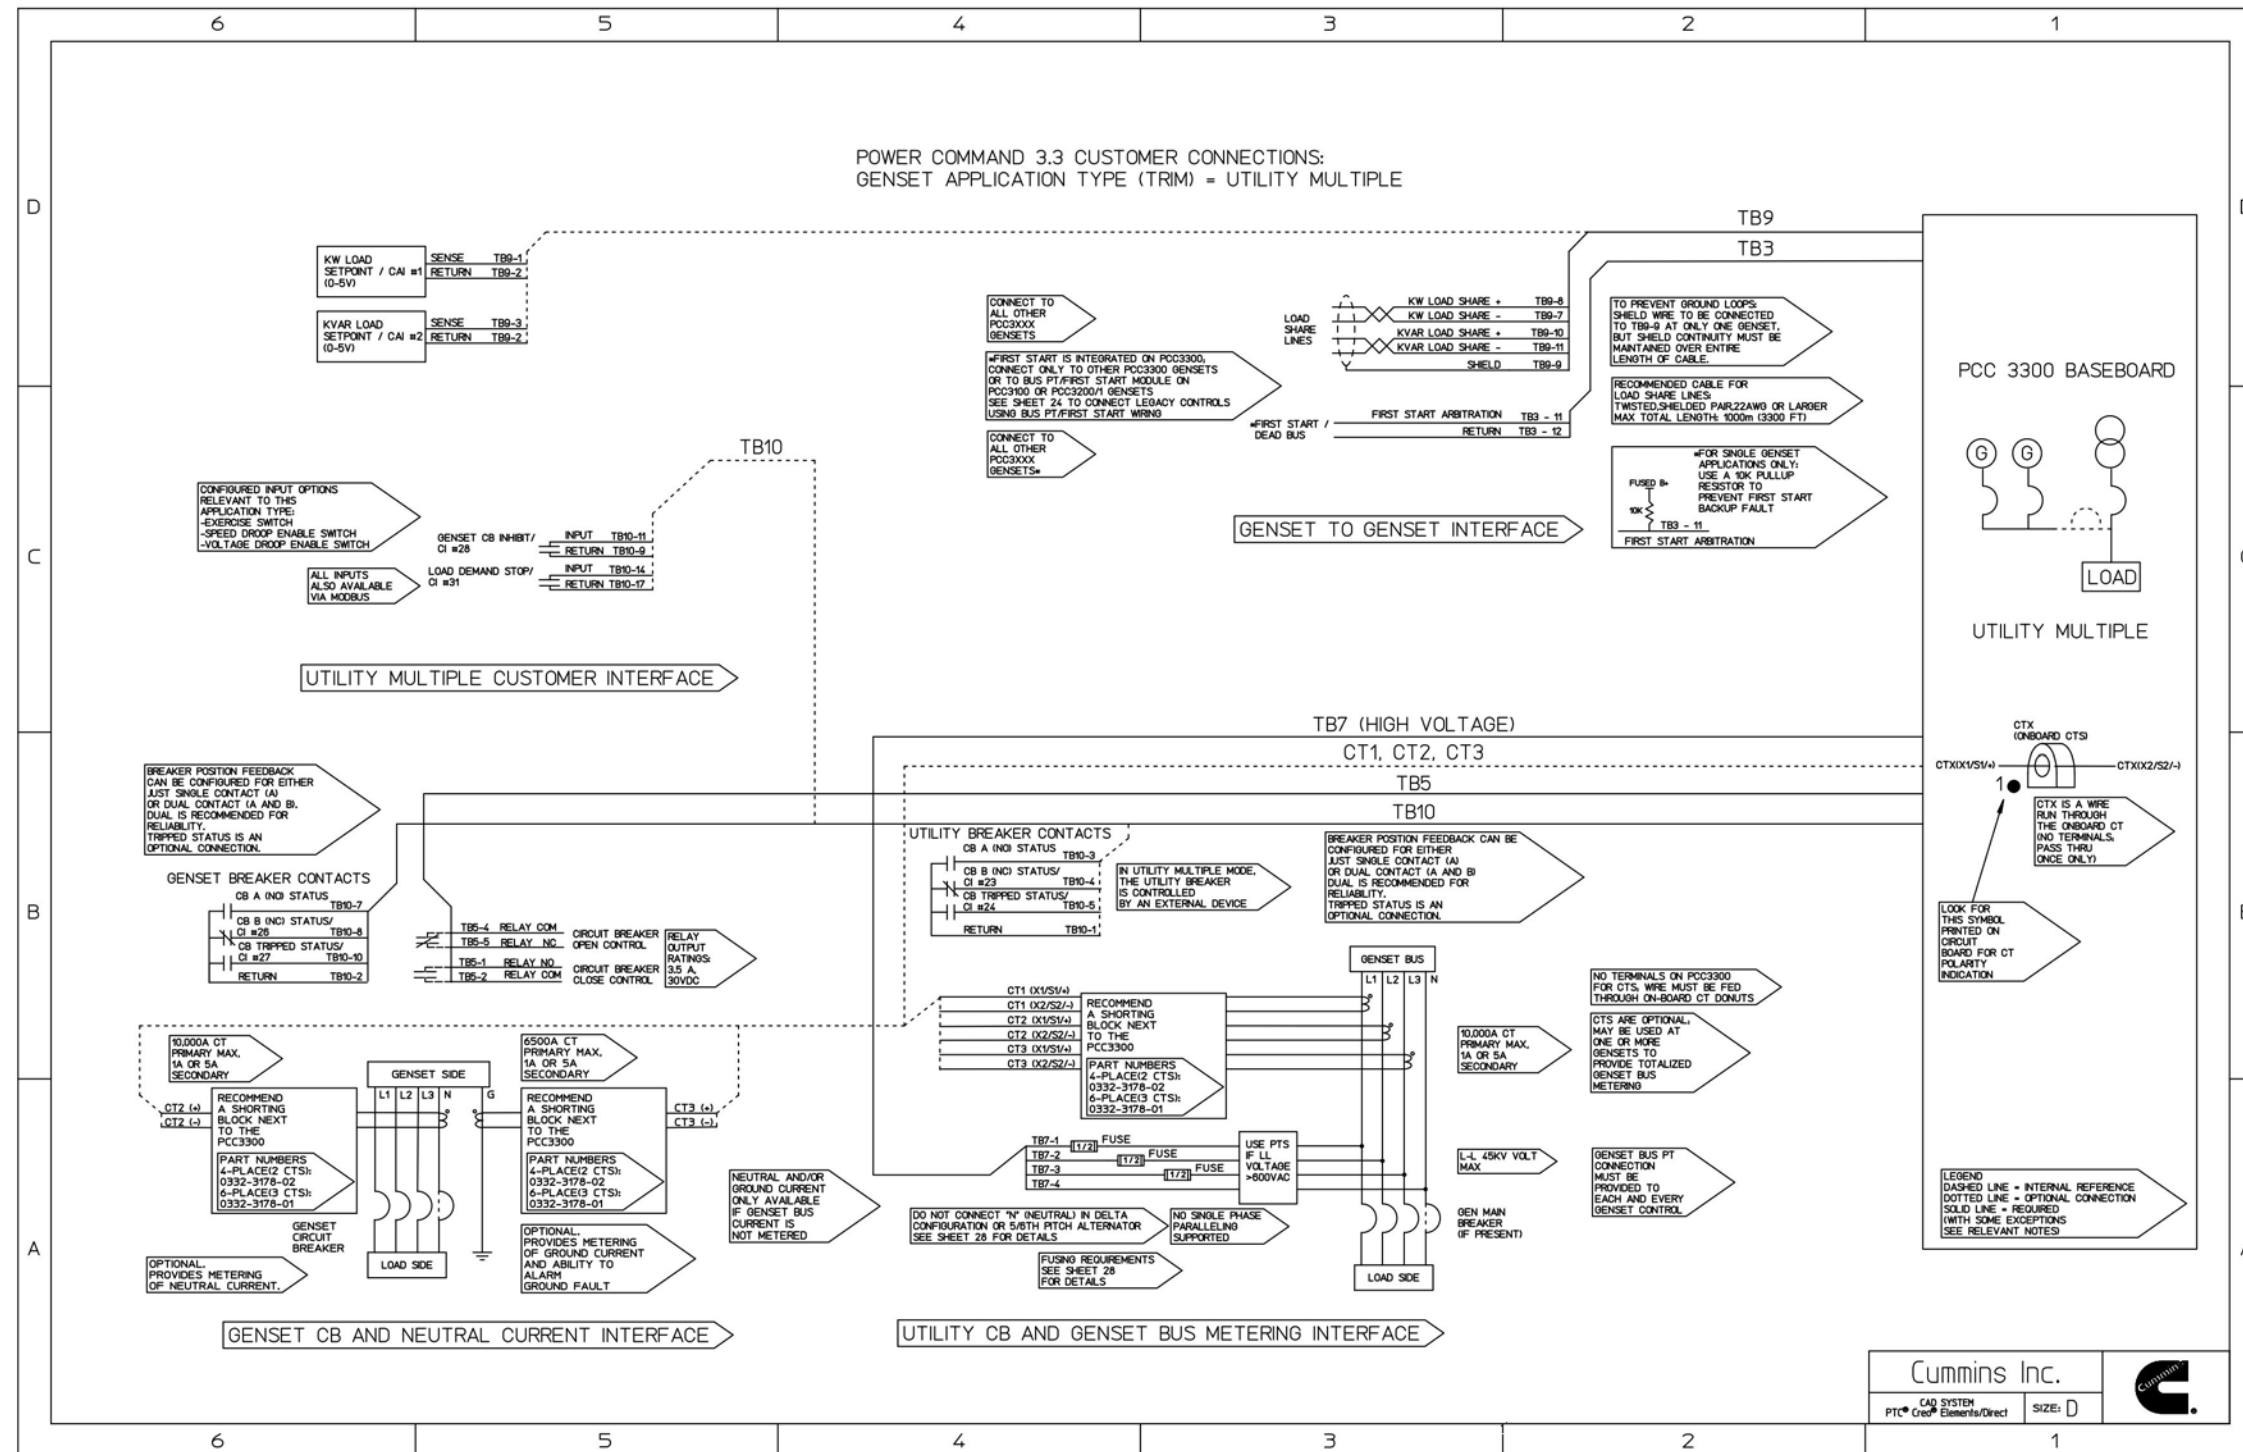

FIGURE 80. POWERCOMMAND 3.3 PARALLELING CONNECTIONS - UTILITY MULTIPLE
- Figure 80. PowerCommand 3.3 Paralleling Connections - Utility Multiple 135